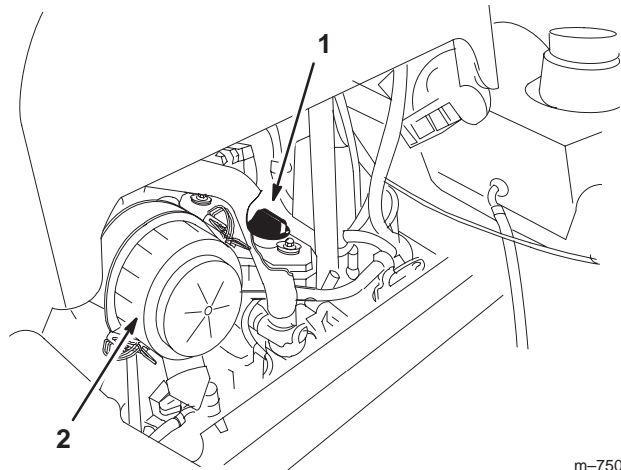

Figure 43
6. Remove the oil filler cap from the top of the engine (Fig. 43). This will help the oil to drain.
2. Remove the filler cap and the dipstick (Fig. 43).